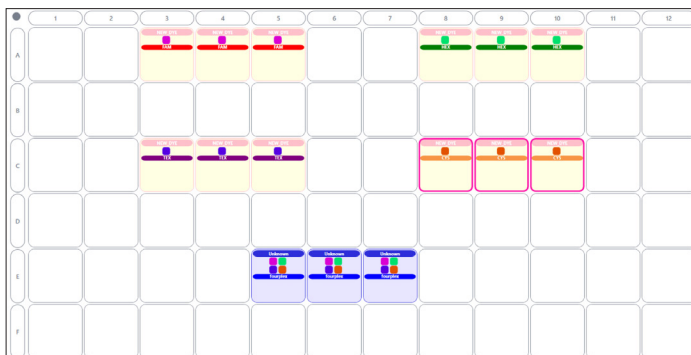

Figure 1. Triplicate simplex reactions of FAM, HEX, Texas Red, and Cy5 in non-adjacent wells, and a set of triplicate multiplex reactions.
4. Properly label the simplex reactions as Well type: “NEW\_DYE”, Sample: dye name, and the channel for the new dye. (also, see Figure 1). Label the multiplex reactions as Well type: “Unknown”, Sample: multiplex, and all channels included in the multiplex reaction.